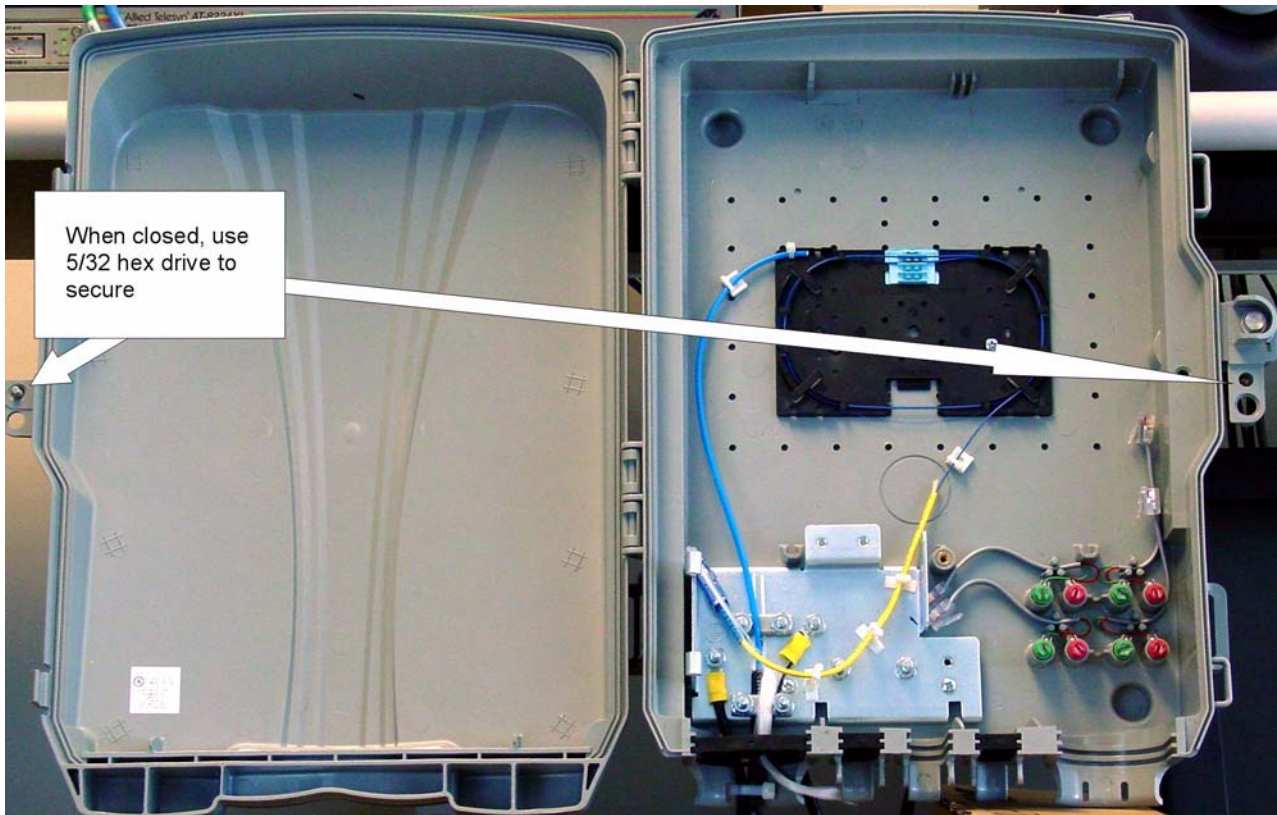

Figure 26. Enclosure Connections at End of Installation
4. The Enclosure is now complete and should be locked up for later Electronics installation. Refer to Figure 26.